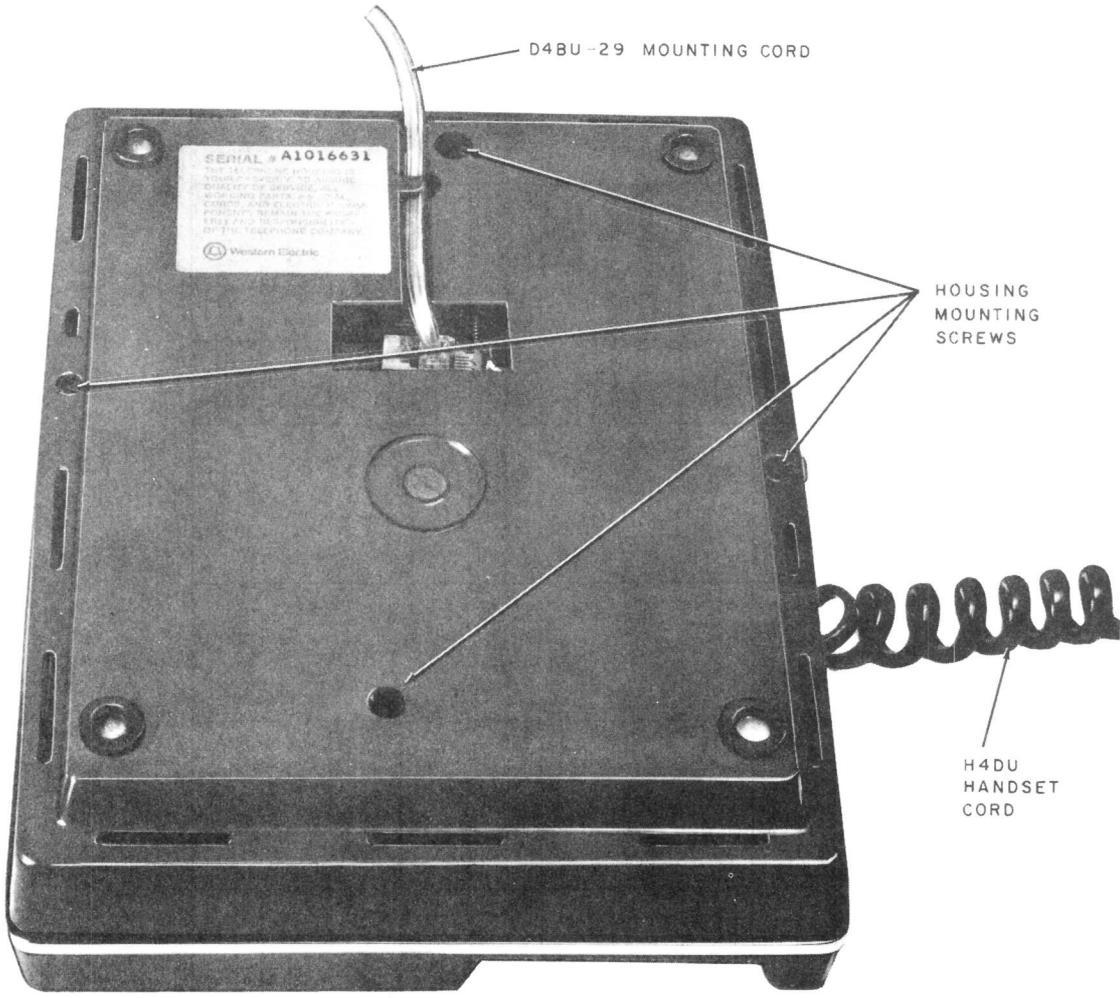

Fig. 6—900A or 2900A Telephone Set, Bottom View
- (1) Remove handset and mounting cords from the telephone set.
- (2) Remove housing:
- Loosen the two captive mounting screws in bottom of housing (Fig. 6)
- Remove two screws from side of housing (Fig. 6).